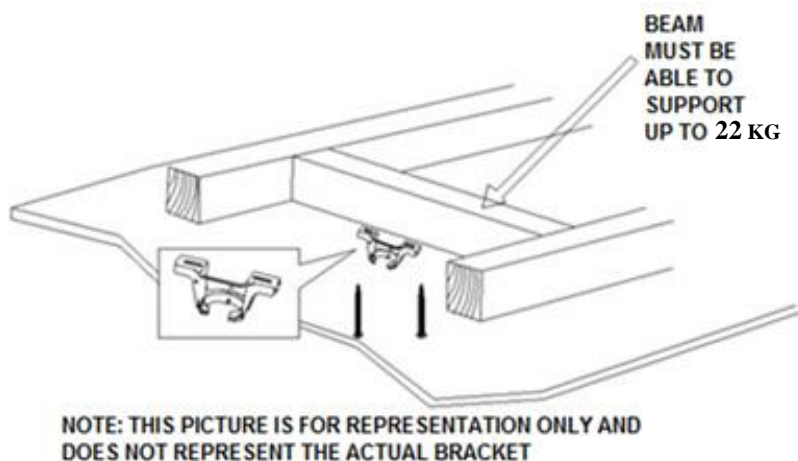

Fig. 2
- Install the hanging bracket to the ceiling joist or structure that is capable of carrying a load of at least 22kg, with two long screws provided. Ensure at least 30mm of the screw is threaded into the support. (Fig. 2)